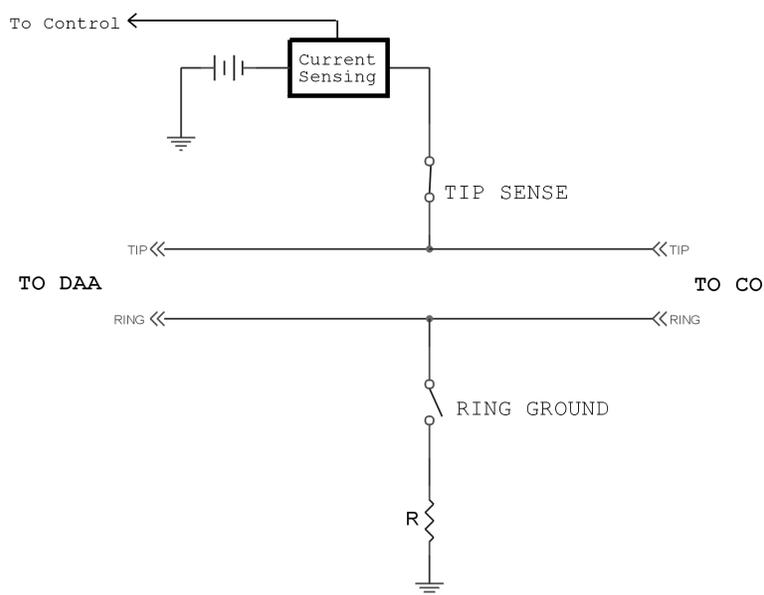

Figure 9. Connections
With the addition of relays, a voltage or current supply, and a current sensing circuit, the Skyworks Solutions' DAAs can be used in systems that require ground-start signaling. Figure 9 shows the necessary connections.
A relay with a resistor to ground on the RING lead and a relay, supply, and current sensing circuit on the TIP lead are needed. A simple single pole, single throw relay is sufficient for both the "RING GROUND" and "TIP SENSE" relays shown in Figure 9. The resistor (R) may be a maximum of 550 Ω and should have sufficient capability to handle 120 mA and 50 V. The current sense circuit is beyond the scope of this application note. This circuit, with the supply, must be able to sense when the TIP lead is grounded at the CO and be able to signal to the CI to close the loop for service.